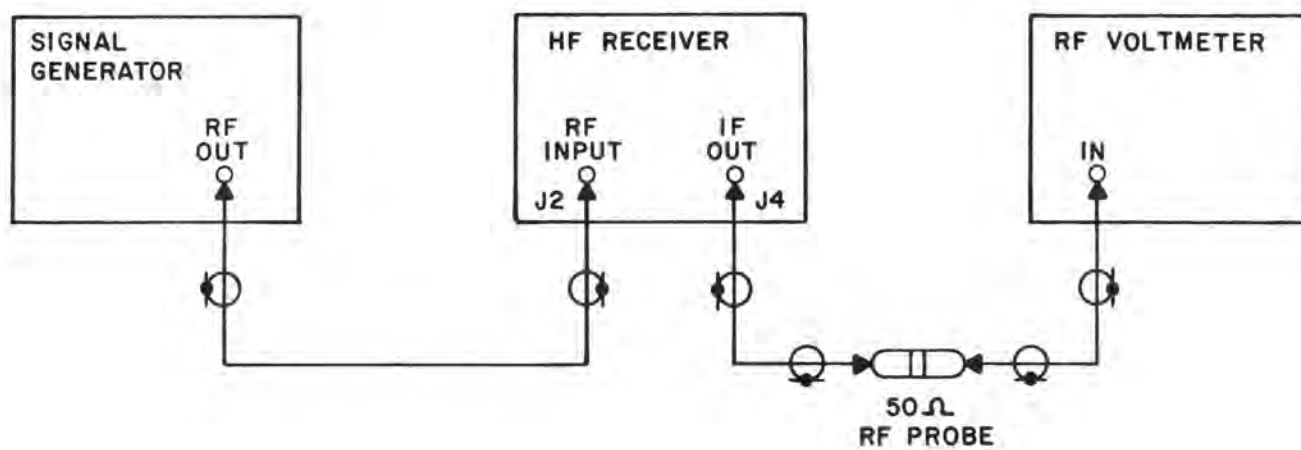

Figure 4-1. IF Gain Test
1. Connect the test equipment as shown in Figure 4-1.